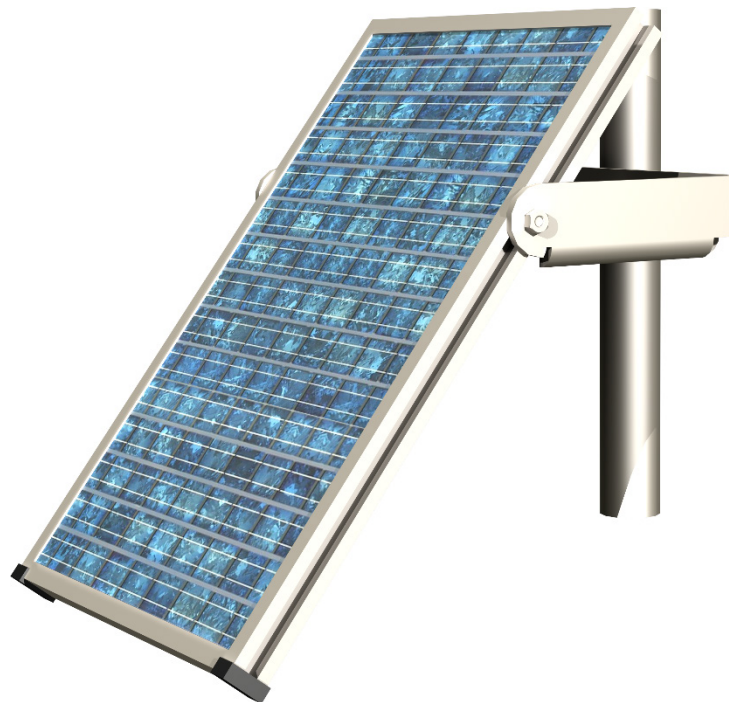

FIGURE 8-5. SP10 Solar Panel
1. Mount the solar panel to the mast, facing south (northern hemisphere). Position the solar panel at the top of the 1 1/4 inch diameter section of the mast. Install using its mounting hardware (see FIGURE 8-5).